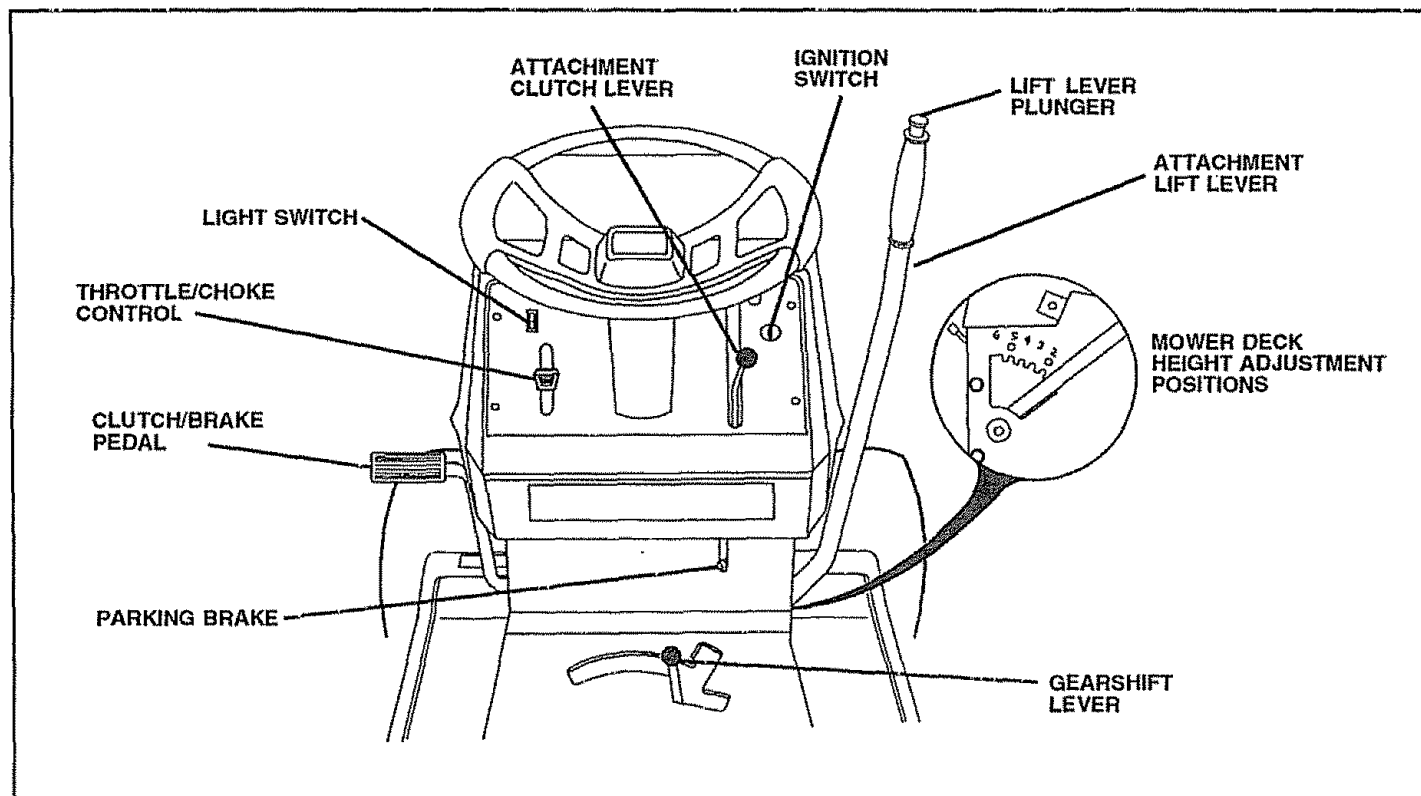

FIG. 6
TO ROLL UNIT OFF SKID (See Fig. 6)
- Slide seat until a comfortable position is reached which allows you to press clutch/brake pedal all the way down (See Fig. 6).
TO MOVE FORWARD AND BACKWARD (See Fig. 6)
TO ADJUST MOWER CUTTING HEIGHT (See Fig. 6)